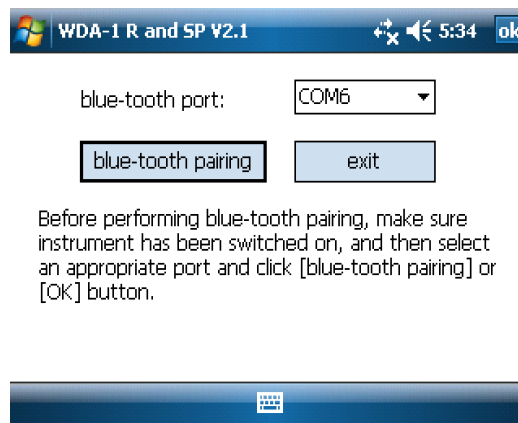

Fig.2-6
- 3) Choose an appropriate Bluetooth port (Bluetooth port varies from various pocket PC. For HP iPAQ pocket PC, choose COM6), then click “Bluetooth pairing” button and click “OK” (at the right top) to execute Bluetooth pairing operation (Fig.2-6).
In order to verify the users’ validity, sometimes the Bluetooth pairing interface (Fig. 2-6) pops up directly the moment system starts up, prior to the Program Main Interface. In this case, it means that system requires operator to pair the Bluetooth first and then enter into the measure interface.